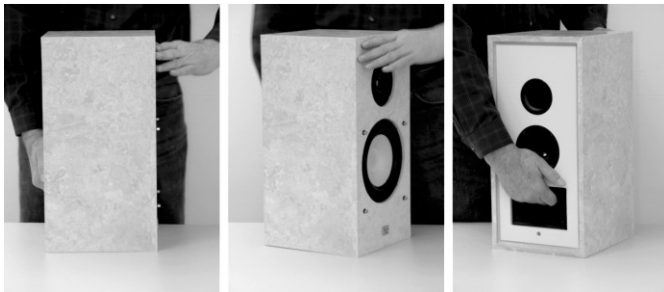

Fig. 6
- 5a. Using the recessed handles in the backs of cabinets A and C, insert right or left hand into handle, steady the top of the cabinet with your other hand as noted in *Fig. 6*, carefully perform a test lift to ensure you can safely carry the cabinet. If in doubt, seek help.